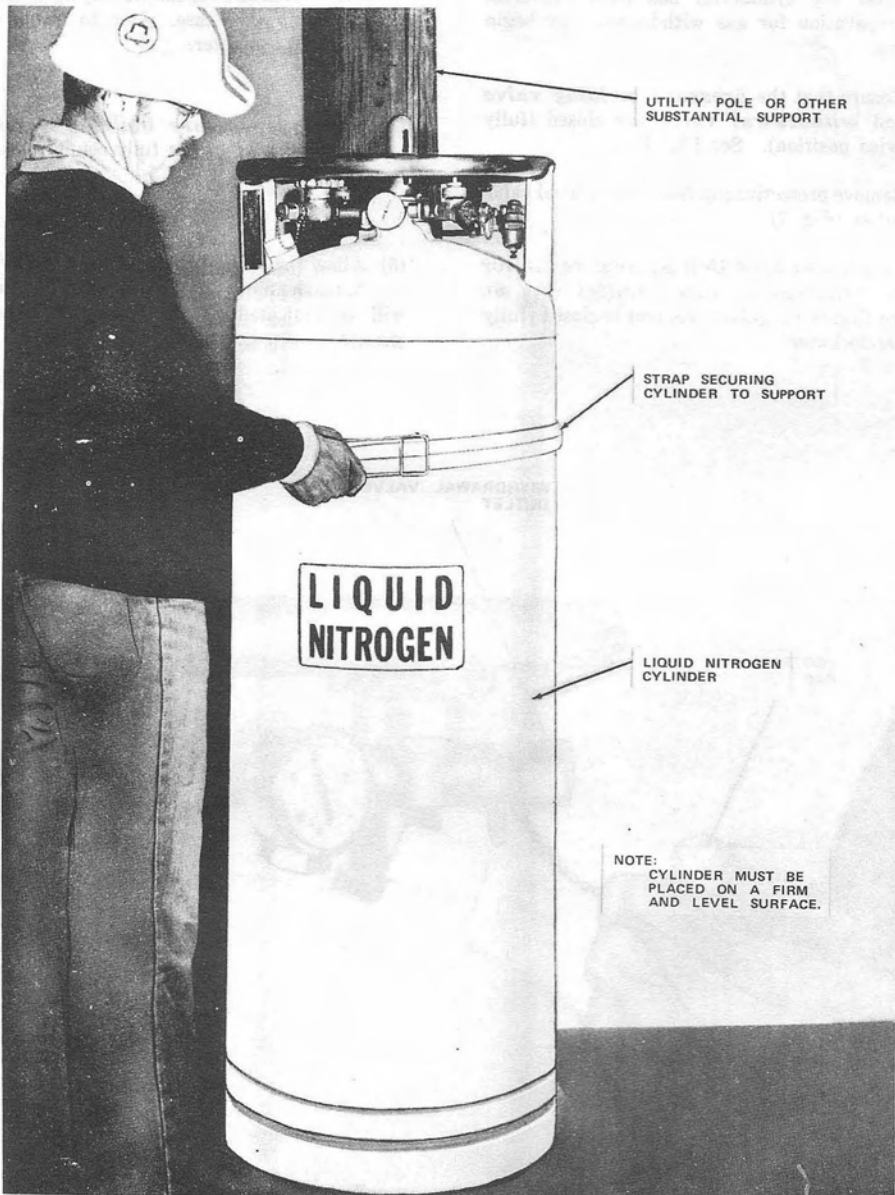

Fig. 6—Securing Liquid Nitrogen Cylinder to Utility Pole
(d) At the job site, the cylinder must be placed on a firm and level surface free of obstructions and secured to a substantial support. (See Fig. 6.)
4.03 The Telephone Company must inform the cylinder supplier of the exact placing location. The selected location must have a firm and level surface and be situated adjacent to a support for securing the cylinder (Fig. 6). This location should not impede the flow of pedestrian or vehicular traffic.